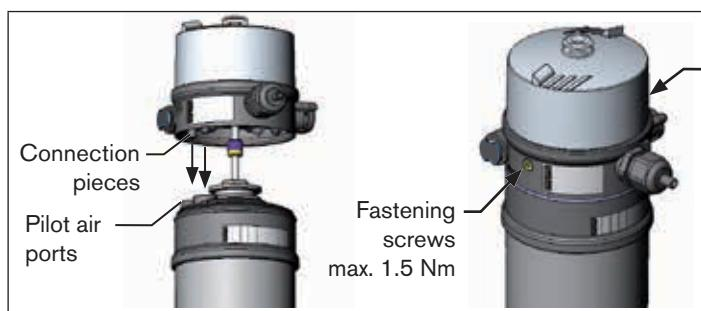

Fig. 9: *Installation of the Pneumatic Control Unit, 21xx series*
- Align the Pneumatic Control Unit until the connection pieces of the Pneumatic Control Unit can be inserted into the pilot air ports of the actuator (see also "Fig. 9").